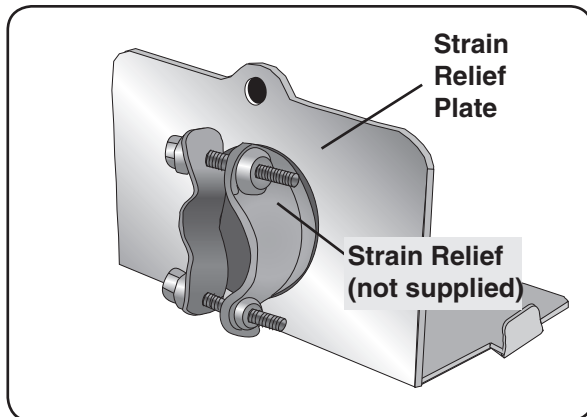

Figure 29
- 1 Retrieve the strain relief plate, and install a strain relief (not supplied) into the opening on the strain relief plate. **NOTE:** Orient the strain relief as shown in **Figure 29**.